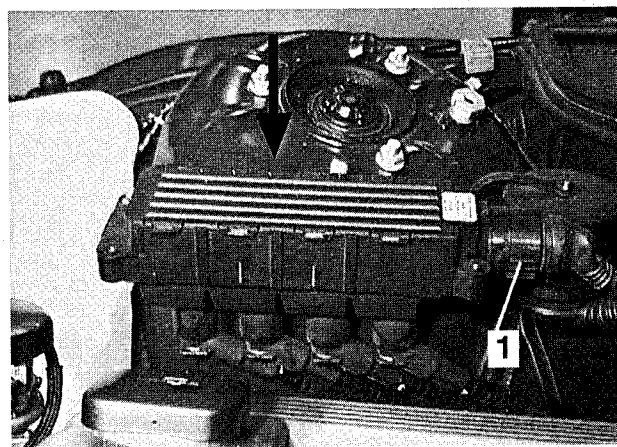

Fig. 3. Ignition coil pack for M44 engine (arrow). Coil harness connector shown at 1.
- On M44 engine, disconnect main harness connector at end of coil pack. See Fig. 3.